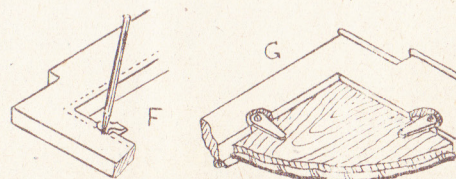

Fig. 3—Fixing the back
A simple method is to cut off a 1 in. length of the moulding, place over the edge of the opening, as at (F) in Fig. 3, and slide it along the whole four sides, keeping a pencil pressed against its outer edge. This will give the exact length of each of the four pieces, and ensure their correct lengths for mitring the corners.
Place glass and board in position, and at the spots where the clips are considered necessary, chisel out curved recesses, as at (G) Fig. 3, for them to lie in, and just deep enough for the clips to press firmly enough on the backboard, and keep it in place. Be sure the recesses are long enough to allow the clips to swing clear of the board. For a board of the dimensions given in this article, six such clips may be sufficient, one at top and bottom, and two each side.